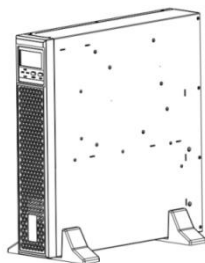

Fig.5-4 Tower installation
Step 3: Place the UPS (and battery cabinet) on the support bases. Each UPS needs two pairs of support bases to install, as shown in Fig.5-4.